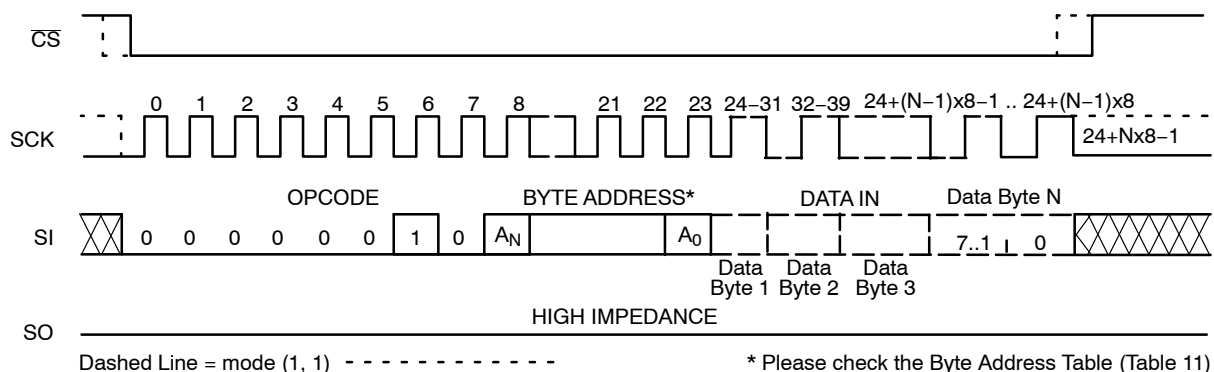

Figure 6. Page WRITE Timing
After sending the first data byte to the NV25xxx, the host may continue sending data, up to a total of 32 bytes, according to timing shown in Figure 6. After each data byte, the lower order address bits are automatically incremented, while the higher order address bits (page address) remain unchanged. If during this process the end of page is exceeded, then loading will “roll over” to the first byte in the
The additional 32-byte Identification Page (IP) can be written with user data using the same Write commands sequence as used for Page Write to the main memory array (Figure 6). **The IPL bit from the Status Register must be set (IPL = 1) using the WRSR instruction, before attempting to write to the IP.** The address bits [A15:A5] are Don't Care and the [A4:A0] bits define the byte address within the Identification Page. In addition, the Byte Address must point to a location outside the protected area defined by the BP1, BP0 bits from the Status Register. When the full memory array is write protected (BP1, BP0 = 1,1), the write instruction to the IP is not accepted and not executed. Also, the write to the IP is not accepted if the LIP bit from the Status Register is set to 1 (the page is locked in Read-only mode).